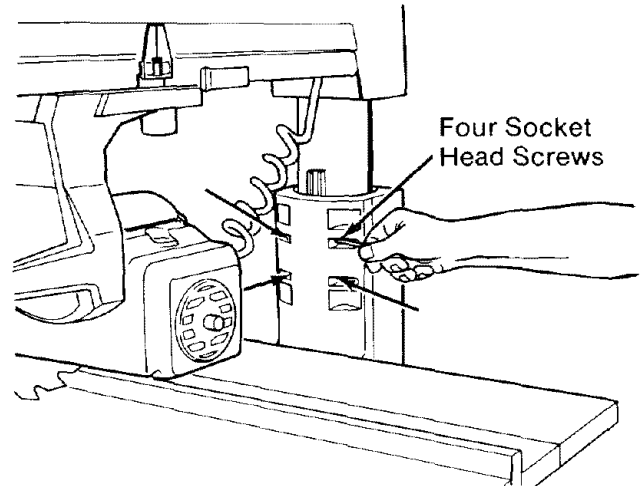

Fig. 35
1. Use a  $1/8"$  hex "L" wrench to loosen the four screws in the front of the *column support*. (Figure 35)